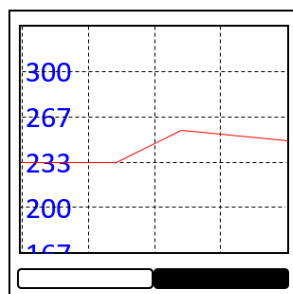

Figure. 6 - FS-100 Flow Trend Chart
When Flow Control Mode (C) is selected, a user defined flow rate setpoint must be entered (Figures 6 & 7). The FS-100 will automatically control the regulating valve according to the preset flow rate with an internally calculated PID algorithm.